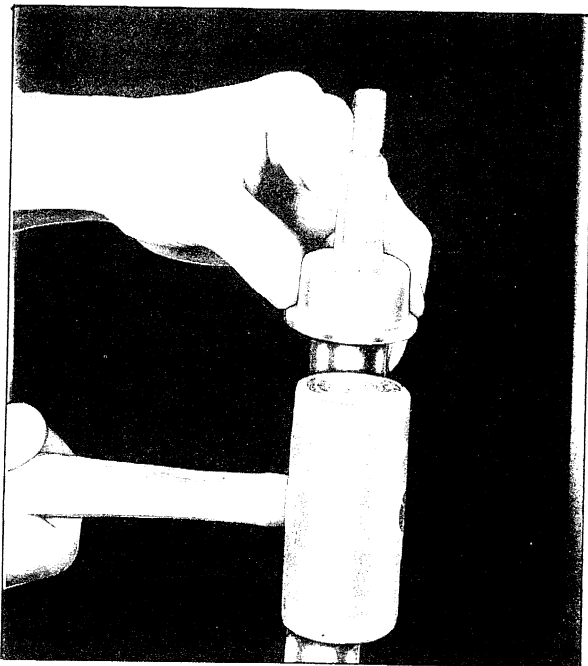
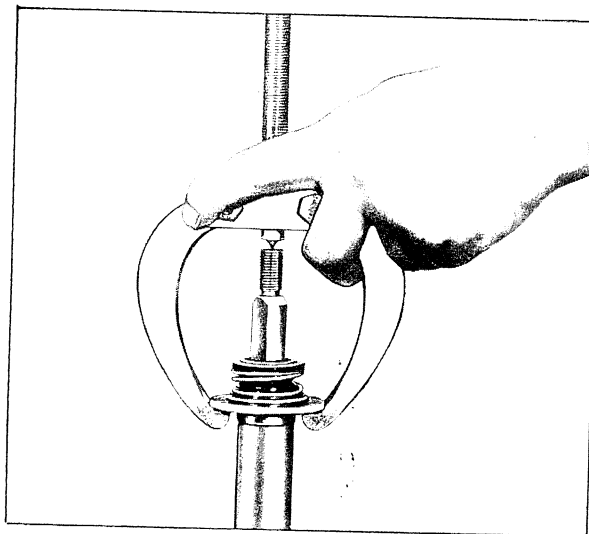

Figure 100
Figure 101
2. Remove the activator shaft seal by tapping it off with a wooden or rawhide mallet, *Figure 100*. If a WH8X58 seal has previously been installed, it can be removed using a wheel puller after the seal guard and seal mating ring with rubber insert have been lifted off, *Figure 101*.